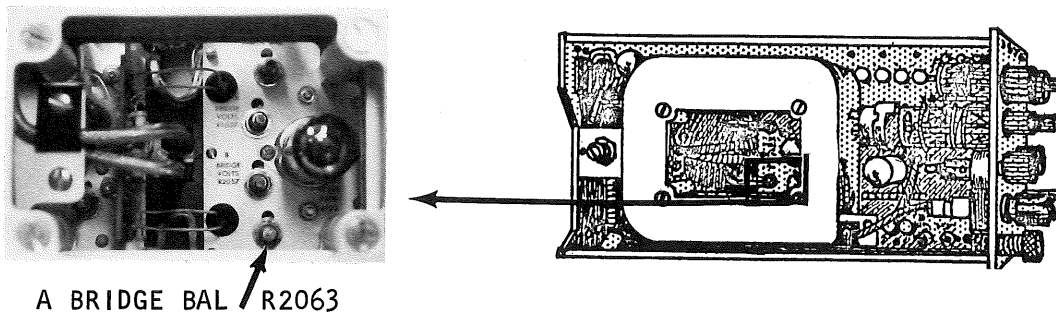

Figure 5-6
4. While switching the CH B MV/DIV control from 200 to 5, adjust the B BRIDGE BALANCE, R2063 - See Figure 5-6, for minimum trace shift.